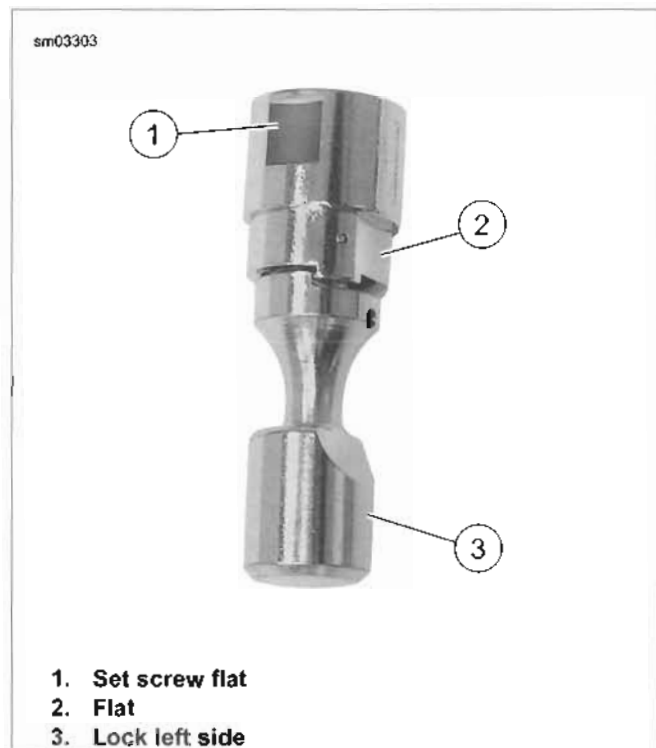

Figure 2-131. Fork Lock
- See Figure 2-131. There is a flat (1) in the bottom of the lock into which the set screw fits. This flat must be at the bottom when the lock is installed.
- When the lock is correctly installed, a forward-facing flat (2) on the lock will fit against a flat inside the external lock boss and the face of the lock will be flush with the face of the external boss.